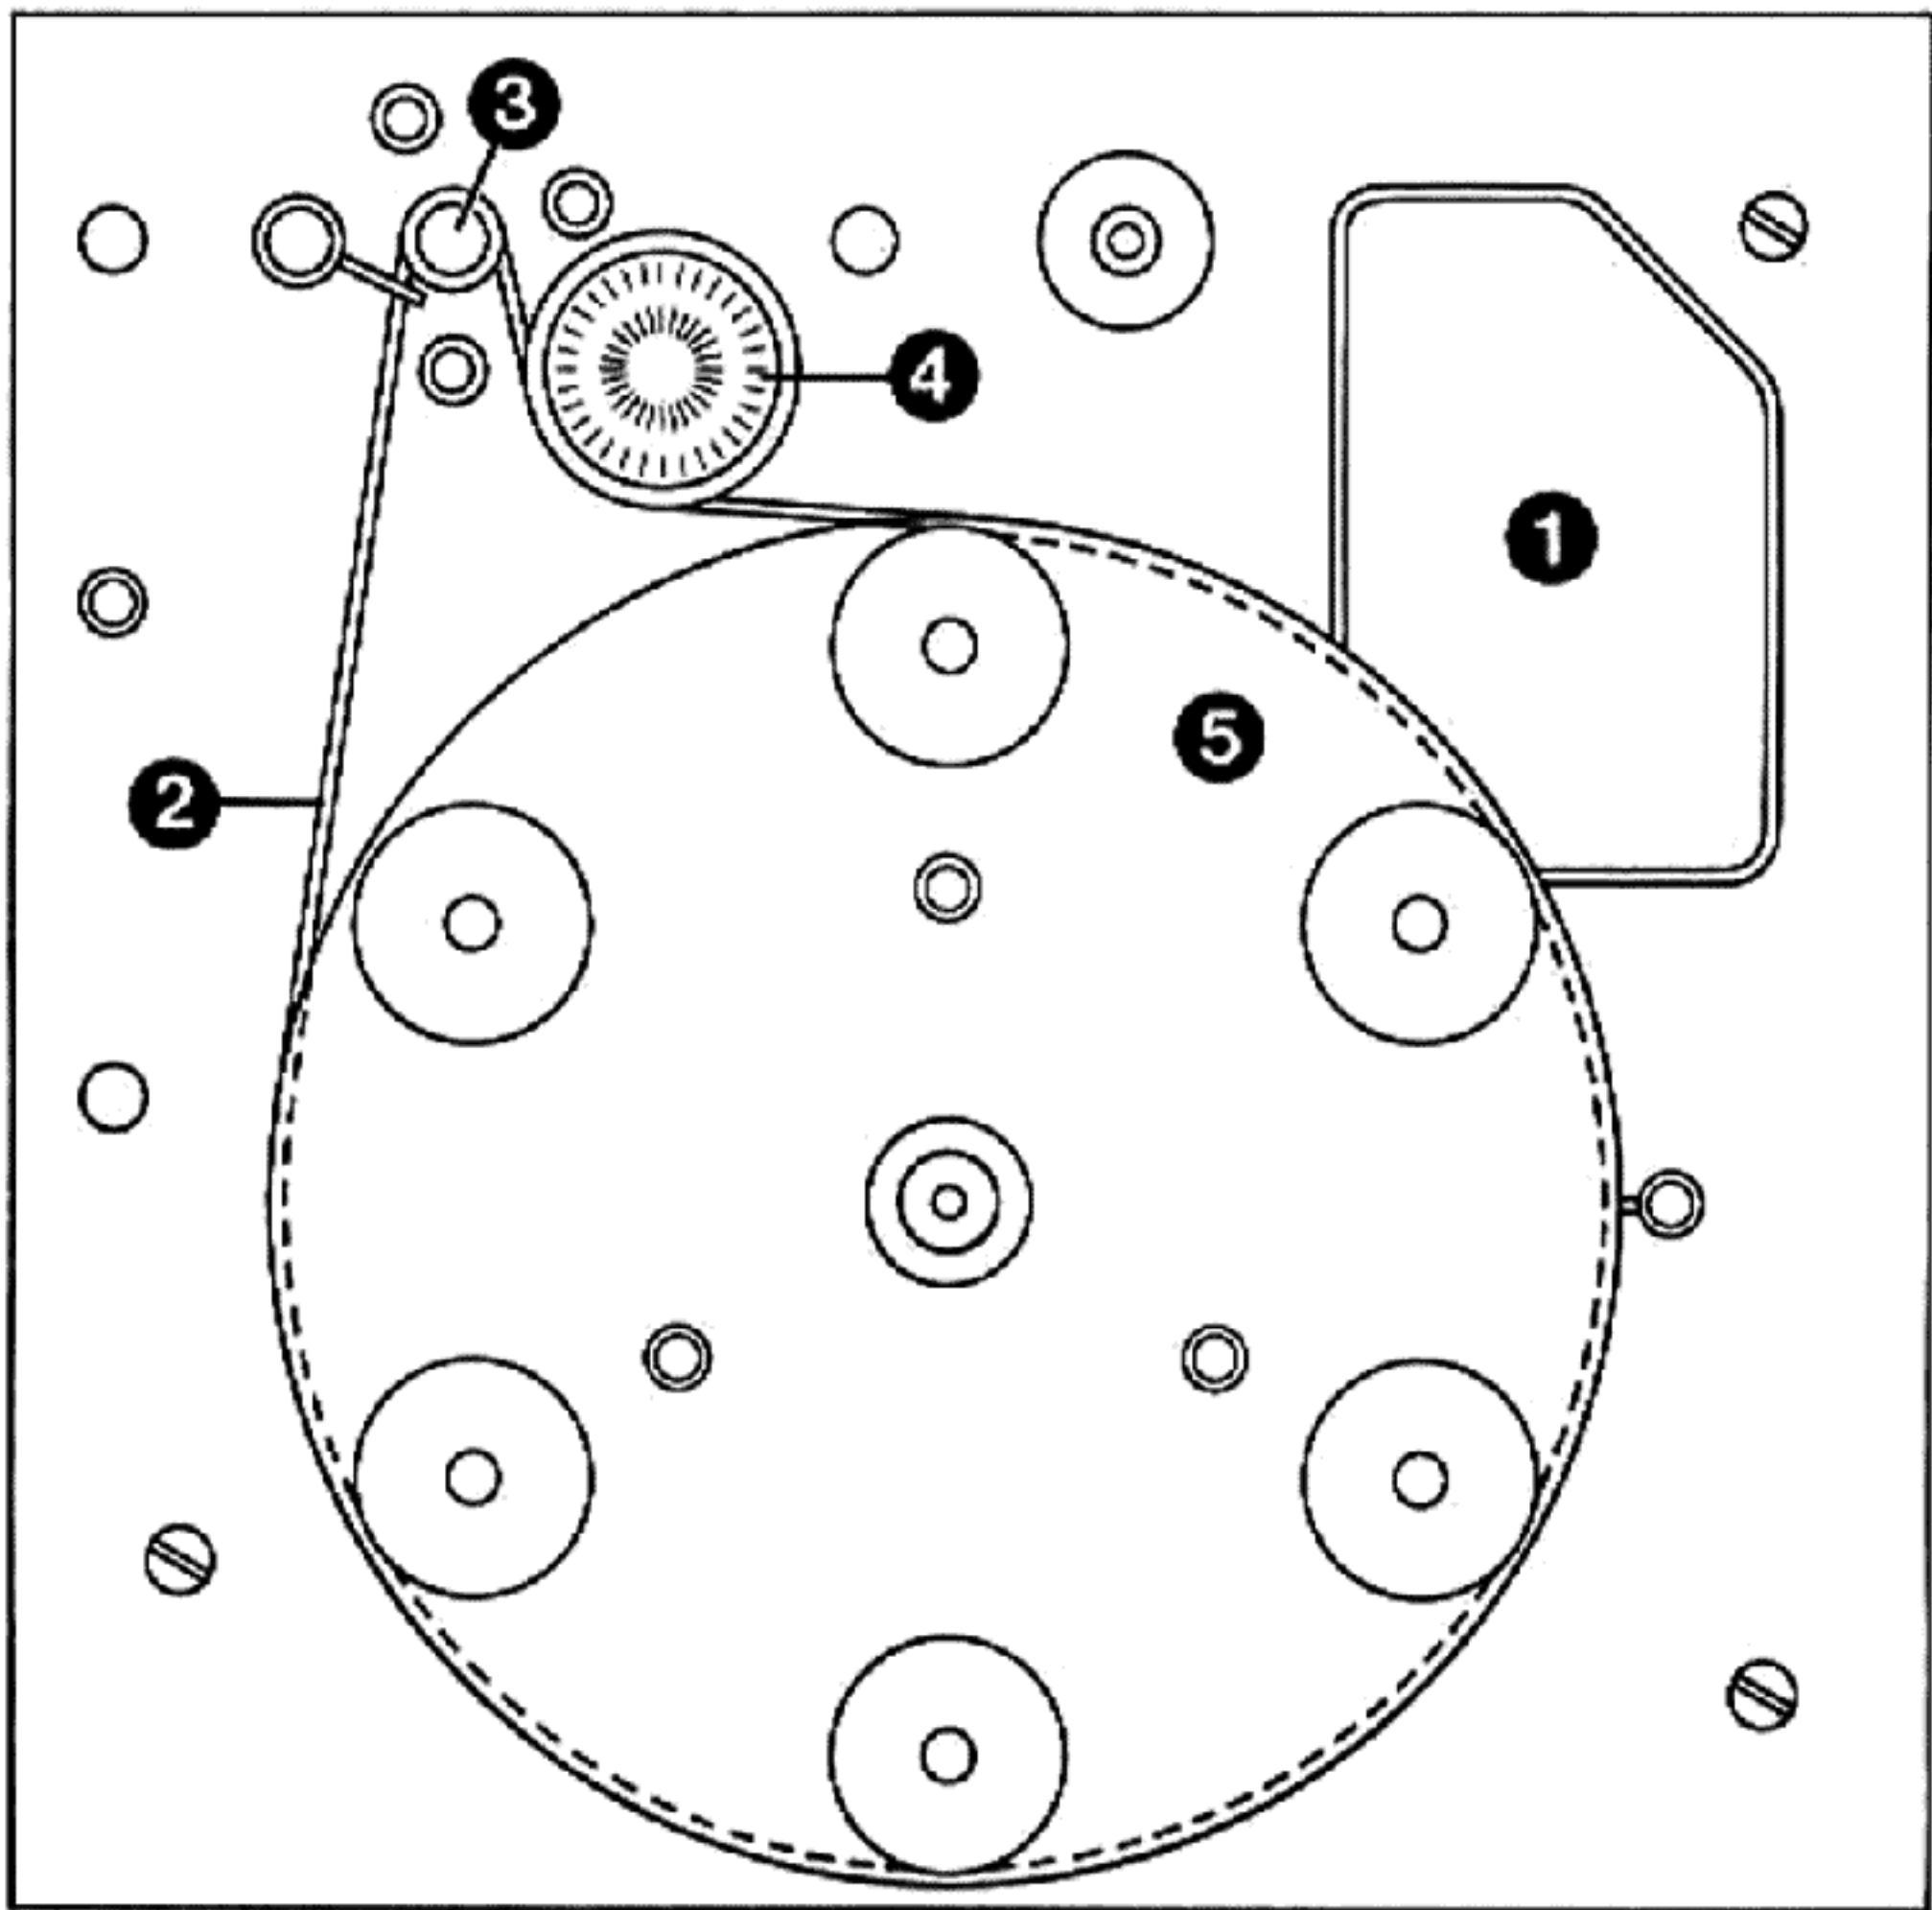
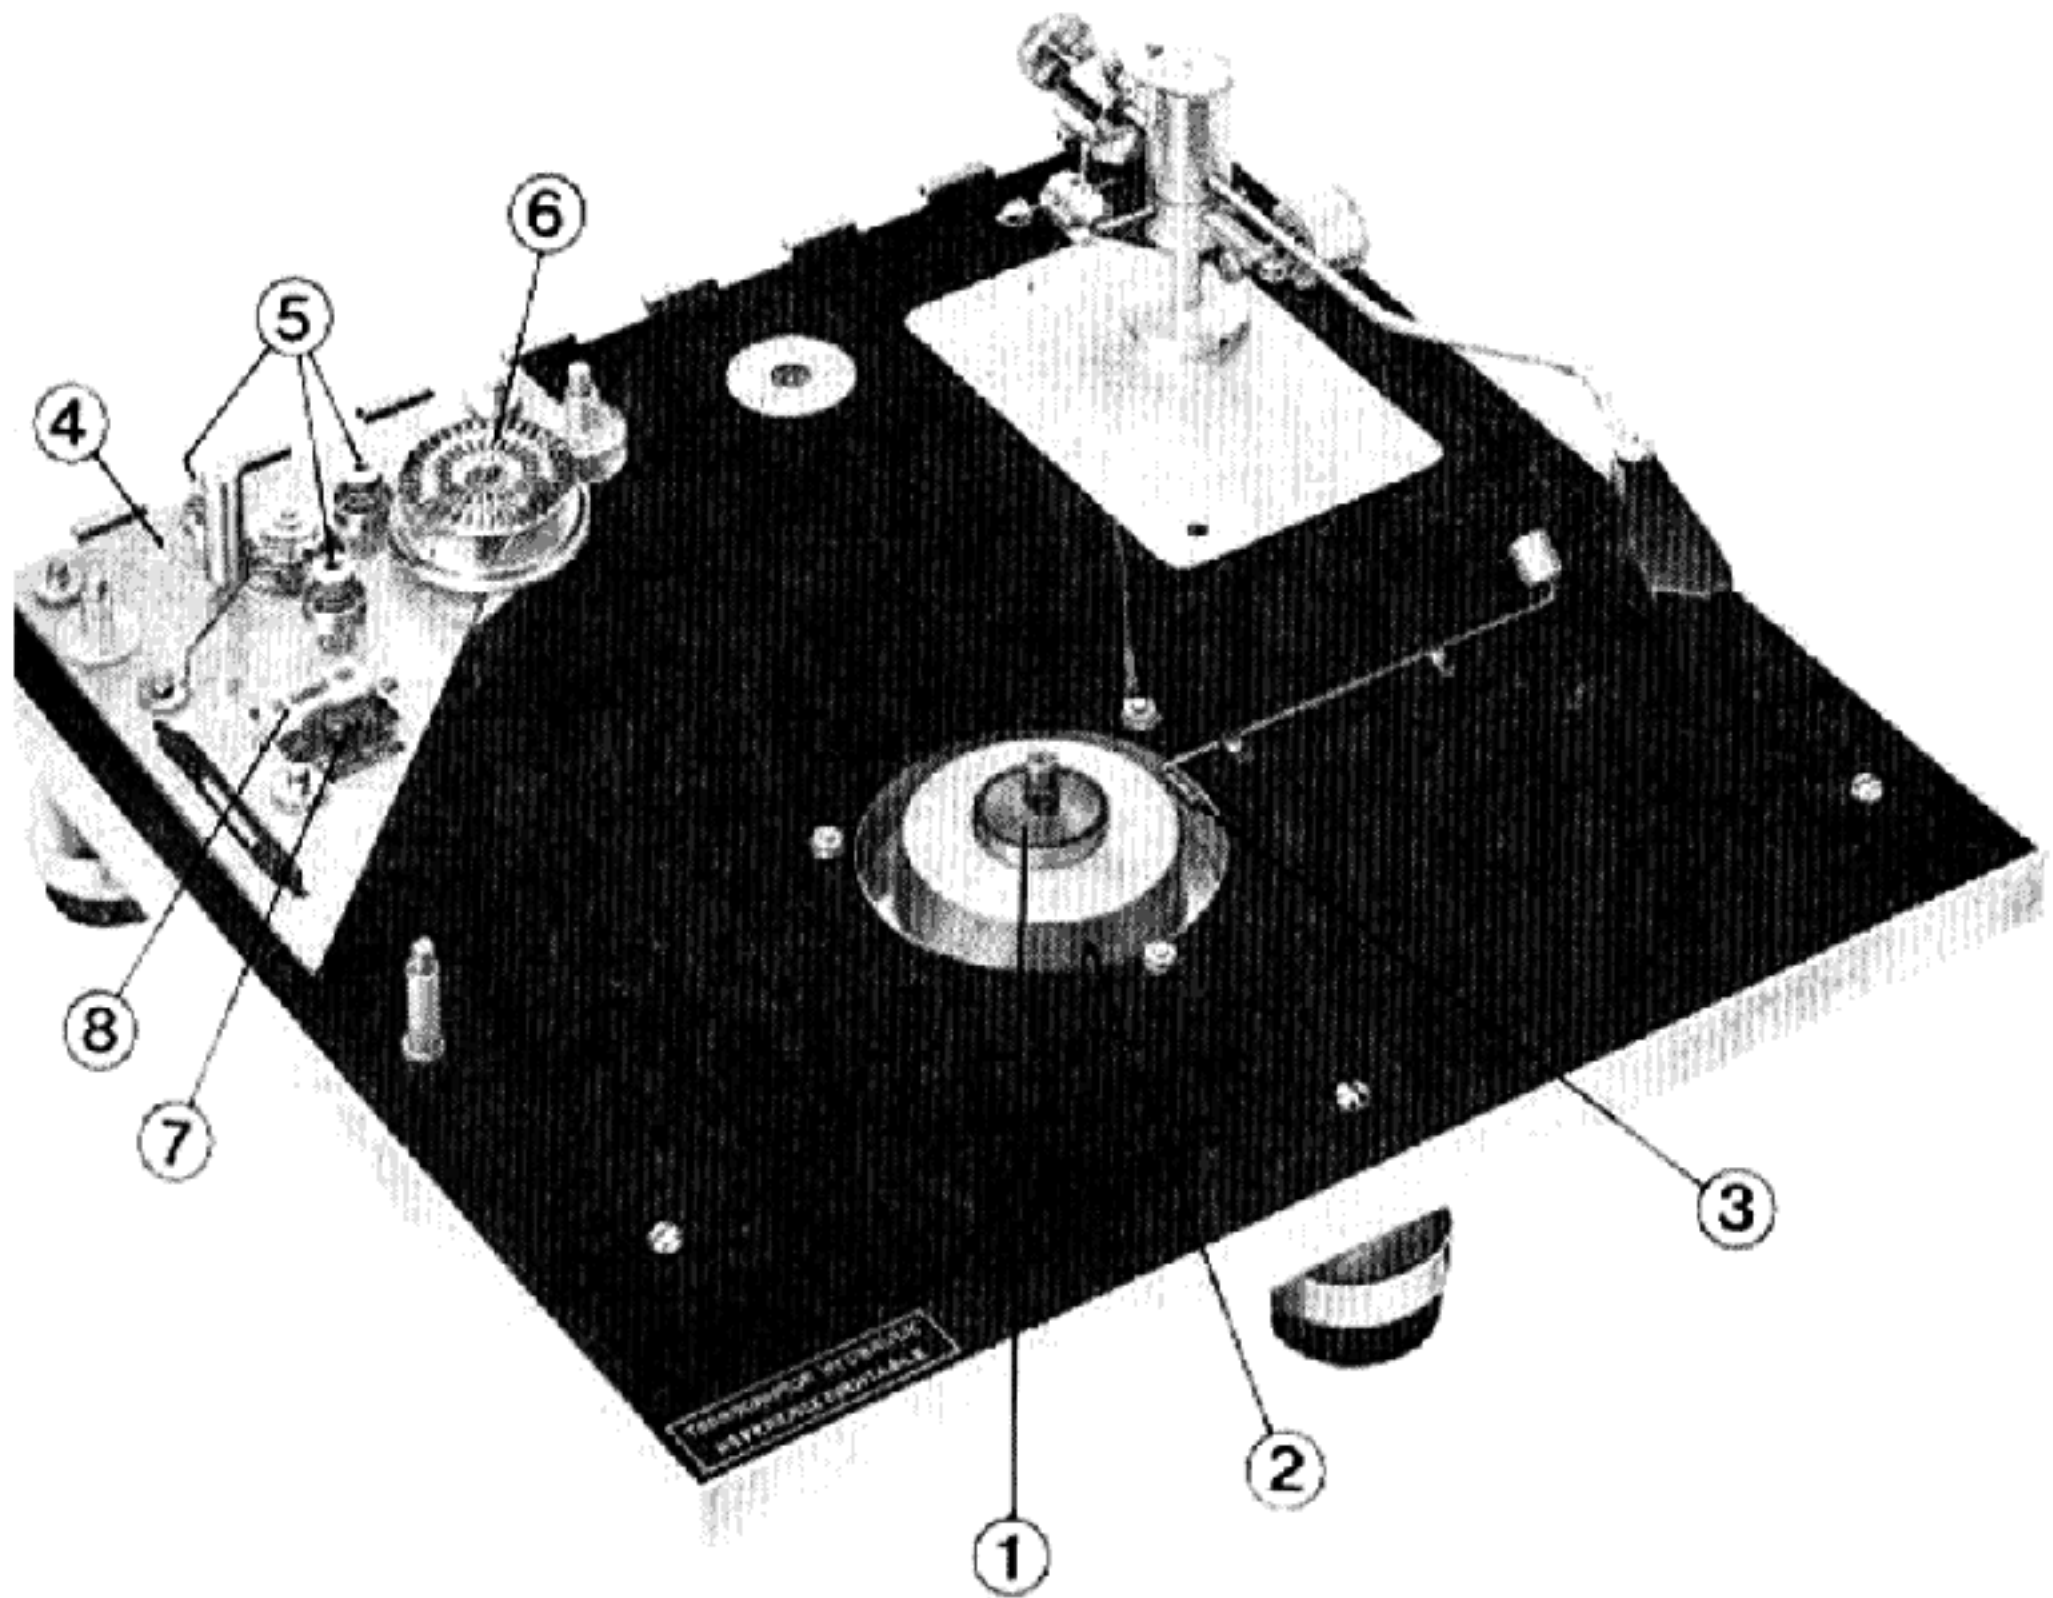
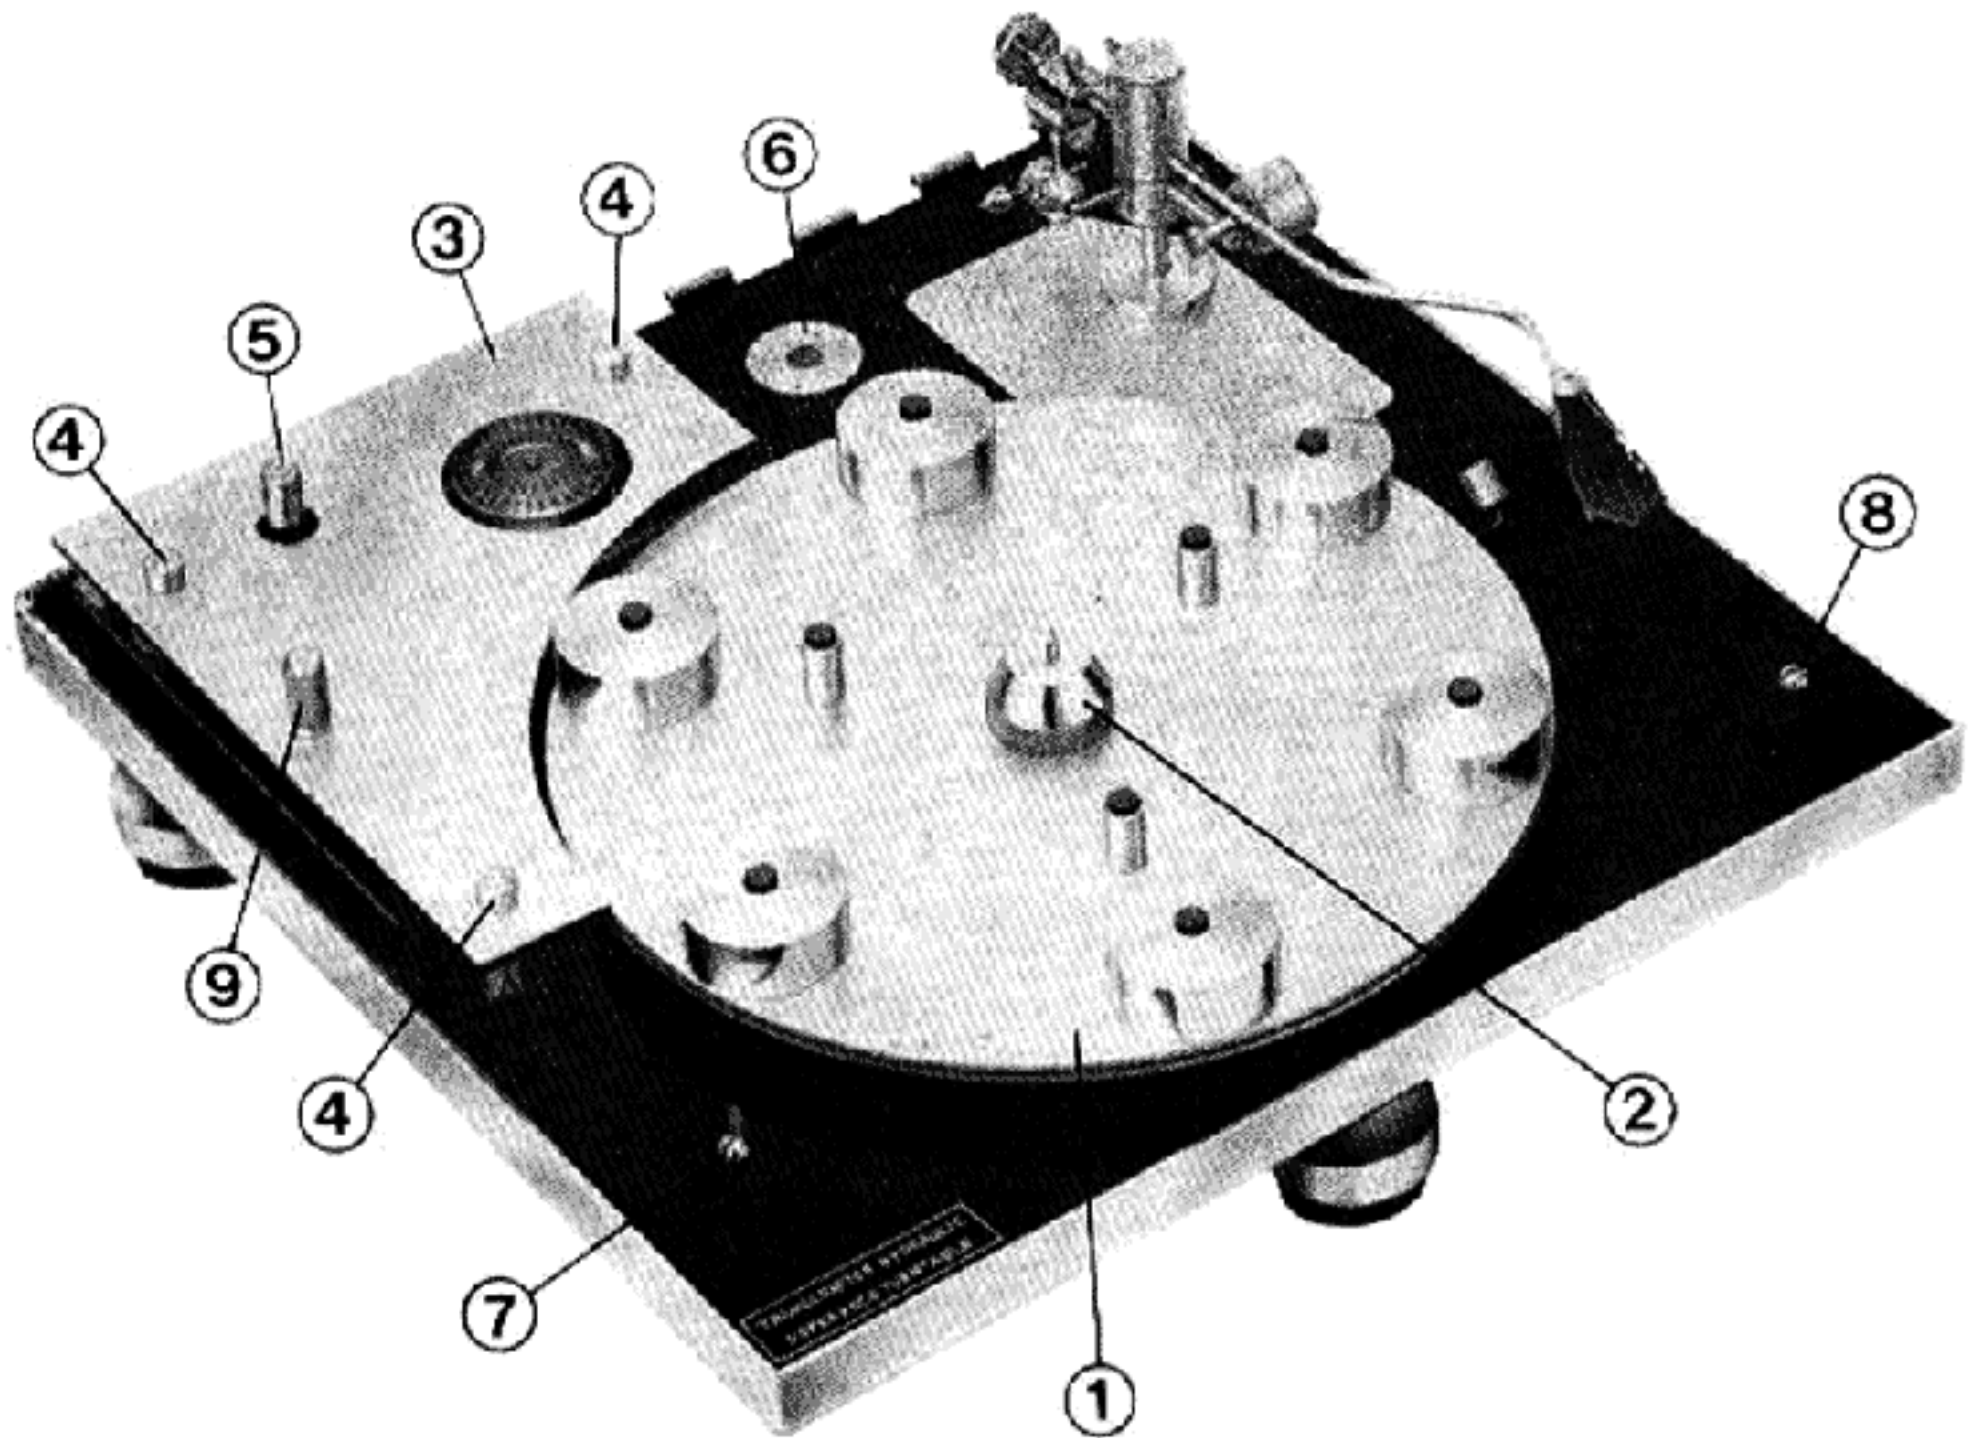

Fig. 2
Fig. 3
Fig. 4
If the TRANSCRIPTOR Fluid Arm has not been fitted onto the tone arm board, fig. 2(1), proceed as follows. However, if it has been fitted, proceed with the setting-up instructions.
- 2** Fill the fluid well, fig. 3(2), surrounding the main bearing, fig. 3(1), with the fluid supplied in the large bottle. All the fluid should be used.
- 3** Ensure that the speed control vane, fig. 3(3), is immersed in the fluid.
- 4** Secure the platter, fig. 4(1), to the centre bearing with the knurled retaining nut, fig. 4(2), after first ensuring that the mating surfaces are clean.
- 5** Ensure that the motor assembly, fig. 3(4), is floating correctly and that its three support springs, fig. 3(5), are seated in their cups correctly. Any temporary misalignment that may have occurred during transit can be corrected simply by holding the motor under the motorboard and pulling it downwards.
- 6** Lightly oil the stroboscope spindle and then fit the stroboscope, fig. 3(6), onto its bearing.
- 7** Fit the drive belt, fig. 2(2), as shown in fig. 2.
- 8** Ensure that the mains voltage adjustment plug, fig. 3(7), has been set for the correct voltage, and that a fuse, fig. 3(8), of the correct rating has been fitted.
- 9** Assemble the top plate, fig. 4(3), onto the unit and secure it with the three retaining nuts, fig. 4(4).
- 11** Close the cover and level the unit by means of the three adjustable legs, using the bubble level indicator, fig. 4(6), on the motorboard.
**NOTE:** The Sweep Arm is available separately as an accessory. If the sweep arm, (fig. 5) has not been fitted by the manufacturer, a pre-drilled fixing hole blanked off with a chromium screw, fig. 4(7), will be found on the left hand side of the motorboard. Remove this screw, insert the sweep arm support rod and secure with its wing nut under the motorboard.
If the stylus brush (fig. 5) has not been fitted by the manufacturer, a pre-drilled hole blanked off with a chromium screw, fig. 4(8), will be found on the right hand side of the motorboard. Remove this screw, insert the stylus brush support rod and secure with its wing nut under the motorboard.
The turntable drive is switched on or off simply by rotating the knob, fig. 4(9), on the top plate through 90°.
Fine speed control is by means of the hydraulic damping vane, fig. 3(3), the control knob for which is on the right-hand side of the platter. Switching between 45 r.p.m. and 33½ r.p.m. is by means of the knob, fig. 4(5), protruding through the top plate—push down for 45 r.p.m., pull up for 33½ r.p.m. This speed change operates only while the motor is running.
- 1** Periodically examine the drive belt, fig. 2(2), for signs of perishing or cracking. Renew if necessary.
- 2** Every 12 months, lightly oil the stroboscope and main bearings (use a sewing machine oil, or similar). Access to the main bearing is obtained by removing the platter, fig. 4(1), sliding the speed control vane, fig. 3(3), to one side and lifting out the fluid well, fig. 3(2).
**NOTE:** To remove platter, remove belt, fig. 2(2); unscrew platter retaining nut, fig. 4(2), then, placing fingers of both hands beneath rim and one thumb on main bearing, fig. 3(1), lift with fingers and press down on main bearing. To prevent damage to the fluid well and the speed control vane a mating paper washer "weak link" is fitted between the platter mounting spindle and the fluid well.